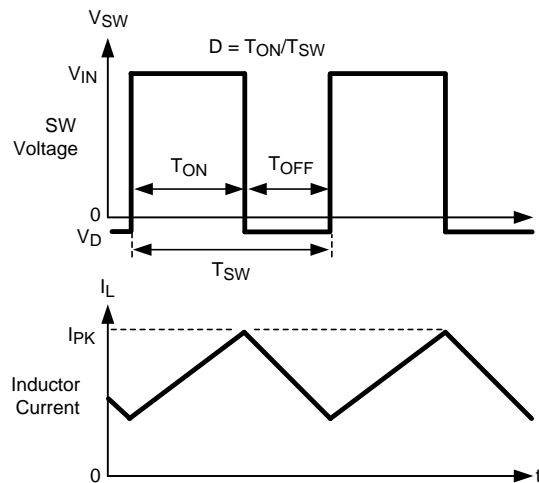

Figure 24. Typical Waveforms
The LM2832 is a constant frequency PWM buck regulator IC that delivers a 2.0A load current. The regulator has a preset switching frequency of 1.6MHz or 3.0MHz. This high frequency allows the LM2832 to operate with small surface mount capacitors and inductors, resulting in a DC/DC converter that requires a minimum amount of board space. The LM2832 is internally compensated, so it is simple to use and requires few external components. The LM2832 uses current-mode control to regulate the output voltage. The following operating description of the LM2832 will refer to the Simplified Block Diagram (Figure 23) and to the waveforms in Figure 24. The LM2832 supplies a regulated output voltage by switching the internal PMOS control switch at constant frequency and variable duty cycle. A switching cycle begins at the falling edge of the reset pulse generated by the internal oscillator. When this pulse goes low, the output control logic turns on the internal PMOS control switch. During this on-time, the SW pin voltage ( $V_{SW}$ ) swings up to approximately  $V_{IN}$ , and the inductor current ( $I_L$ ) increases with a linear slope.  $I_L$  is measured by the current sense amplifier, which generates an output proportional to the switch current. The sense signal is summed with the regulator's corrective ramp and compared to the error amplifier's output, which is proportional to the difference between the feedback voltage and  $V_{REF}$ . When the PWM comparator output goes high, the output switch turns off until the next switching cycle begins. During the switch off-time, inductor current discharges through the Schottky catch diode, which forces the SW pin to swing below ground by the forward voltage ( $V_D$ ) of the Schottky catch diode. The regulator loop adjusts the duty cycle (D) to maintain a constant output voltage.